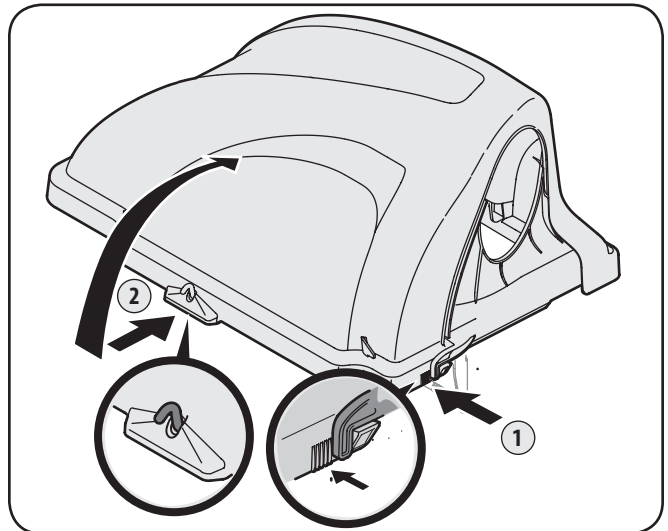

Figure 4-12
6. Open Hood by pushing in on the rear, right-side tab with your right hand, as shown in 1 of Figure 4-12, and lifting the cover with your left hand in the center rear of the bagger cover, 2.